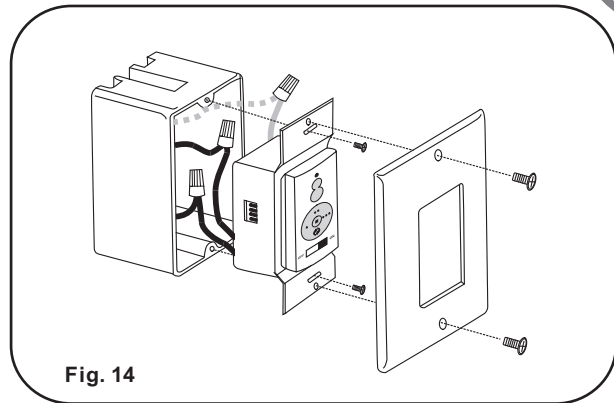

Fig. 14
Step 3. Carefully tuck the wire connections inside the outlet box. Use the screws provided to secure the wall transmitter and wall plate to the outlet box. (Fig. 14)